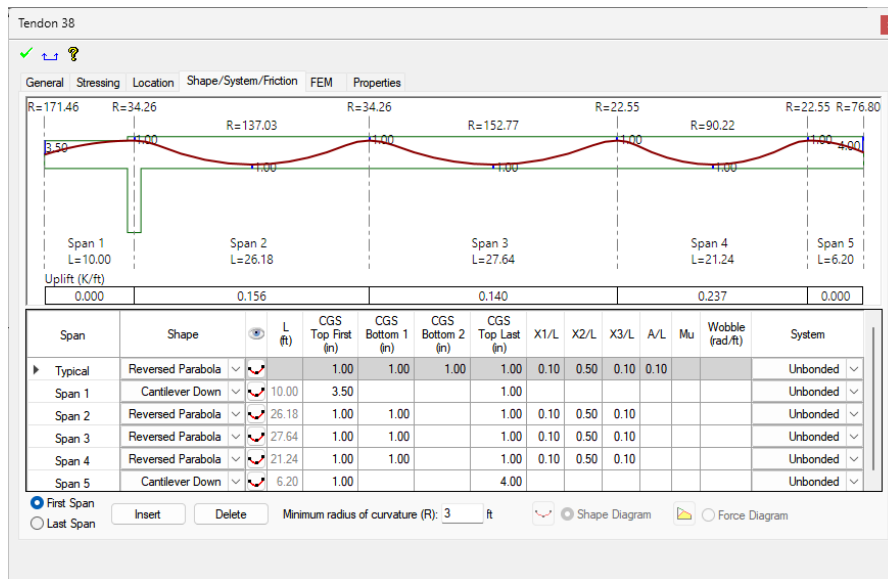

FIGURE 9-81
- Double click on a distributed tendon that runs all the way from the top of the slab to the bottom of the slab and then click on the *Shape/System/Friction* tab. This will bring up the **Tendon Properties** window, as shown in **FIGURE 9-81**.